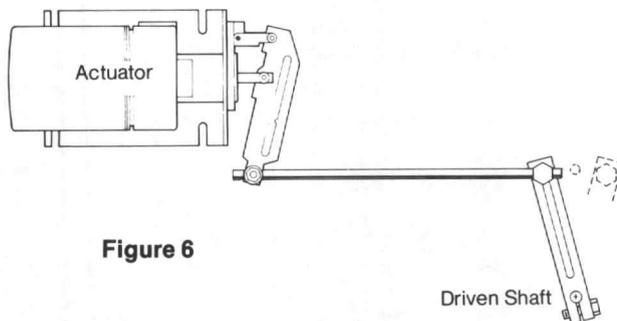

Figure 6
4. Finish the damper actuator mechanical hook-up. After wiring, assemble the straight connector, linkrod, balljoint connector, and damper shaft crank arm as shown **(Figure 6)**.
See Figures 6 and 7. The permanently sealed oil filled case (1) contains a movable hydraulic piston assembly (2) and an electric pump (3) for the hydraulic system. The pump generates a fluid pressure which is transmitted to the top of the piston. Opposing the hydraulic force is the spring of the valve or damper linkage.